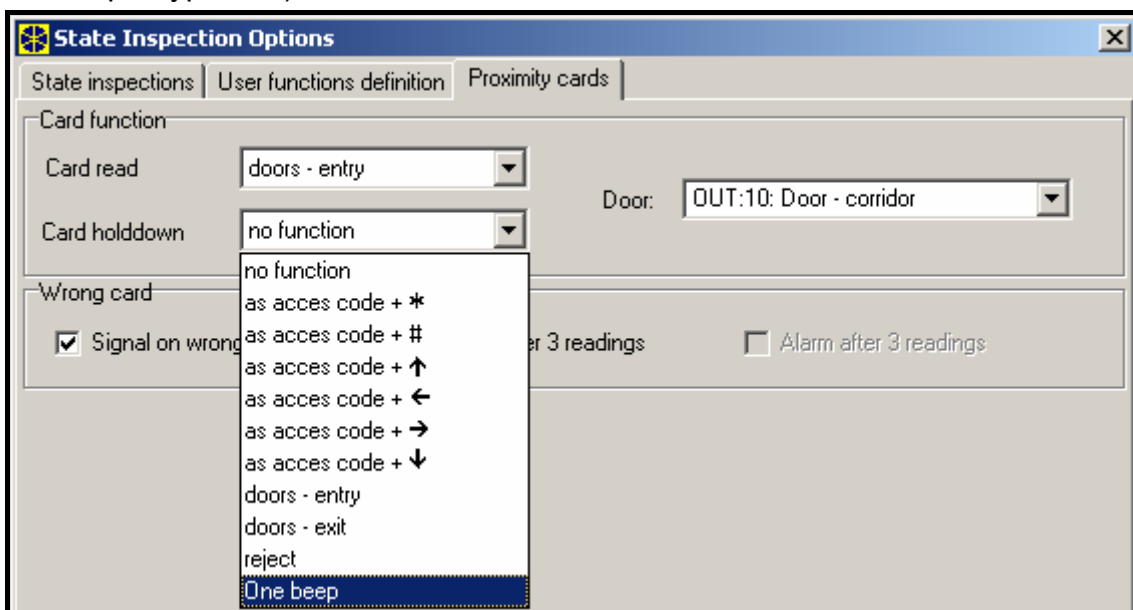

Fig. 15. Handling proximity cards.
- 101. CARD READ - EXPANDER** – the output signals that the card has been read in indicated modules / keypads. It can be used to perform the function of access control and door control from the keypad. To this effect, indicate the keypad in which reading in the card will activate the output, and the partitions from which the users will be able to open the doors. In the keypad settings, you should indicate the control panel output as the door (see Fig. 15). It is necessary to define the door opening function for presenting / holding the card, and select whether this event is to be logged as an entry or an exit.